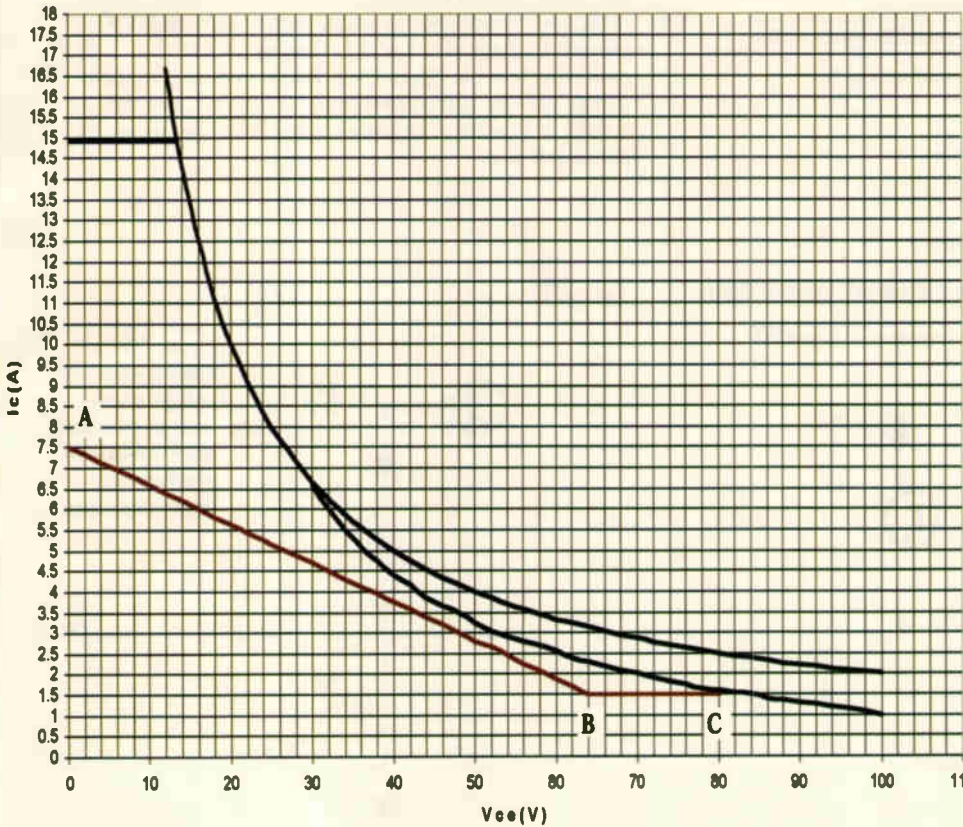

Figure 13: Single slope, single breakpoint non-linear foldback protection locus.
Introducing a zero-gradient segment Fig. 13, at some optimal point in the protection locus permits the enhancement of current delivery at the low- V_{ce} end of the S.O.A., without significantly compromising available current at higher device voltages. The single slope, linear foldback 'protocol', (equation 4), is made redundant, as the protection locus does not cross the V_{ce} -axis at any point. This scheme is briefly mentioned in reference [20], where it is dismissed in favour of the comparatively
- (9) 20, a minimum of three output pairs is required to drive a (4Ω ±60°) load, since available current at V_{ce} ≈ 45V97 remains unchanged at I_c ≈ 3A1. However with the protection locus in figure 13, available current per output pair at V_{ce} ≈ 4V is increased from 6A4 to 7A1, and the current at V_{ce} ≈ 21V_{ce1}, increases from 0A5 to just under 1A5 per output pair.